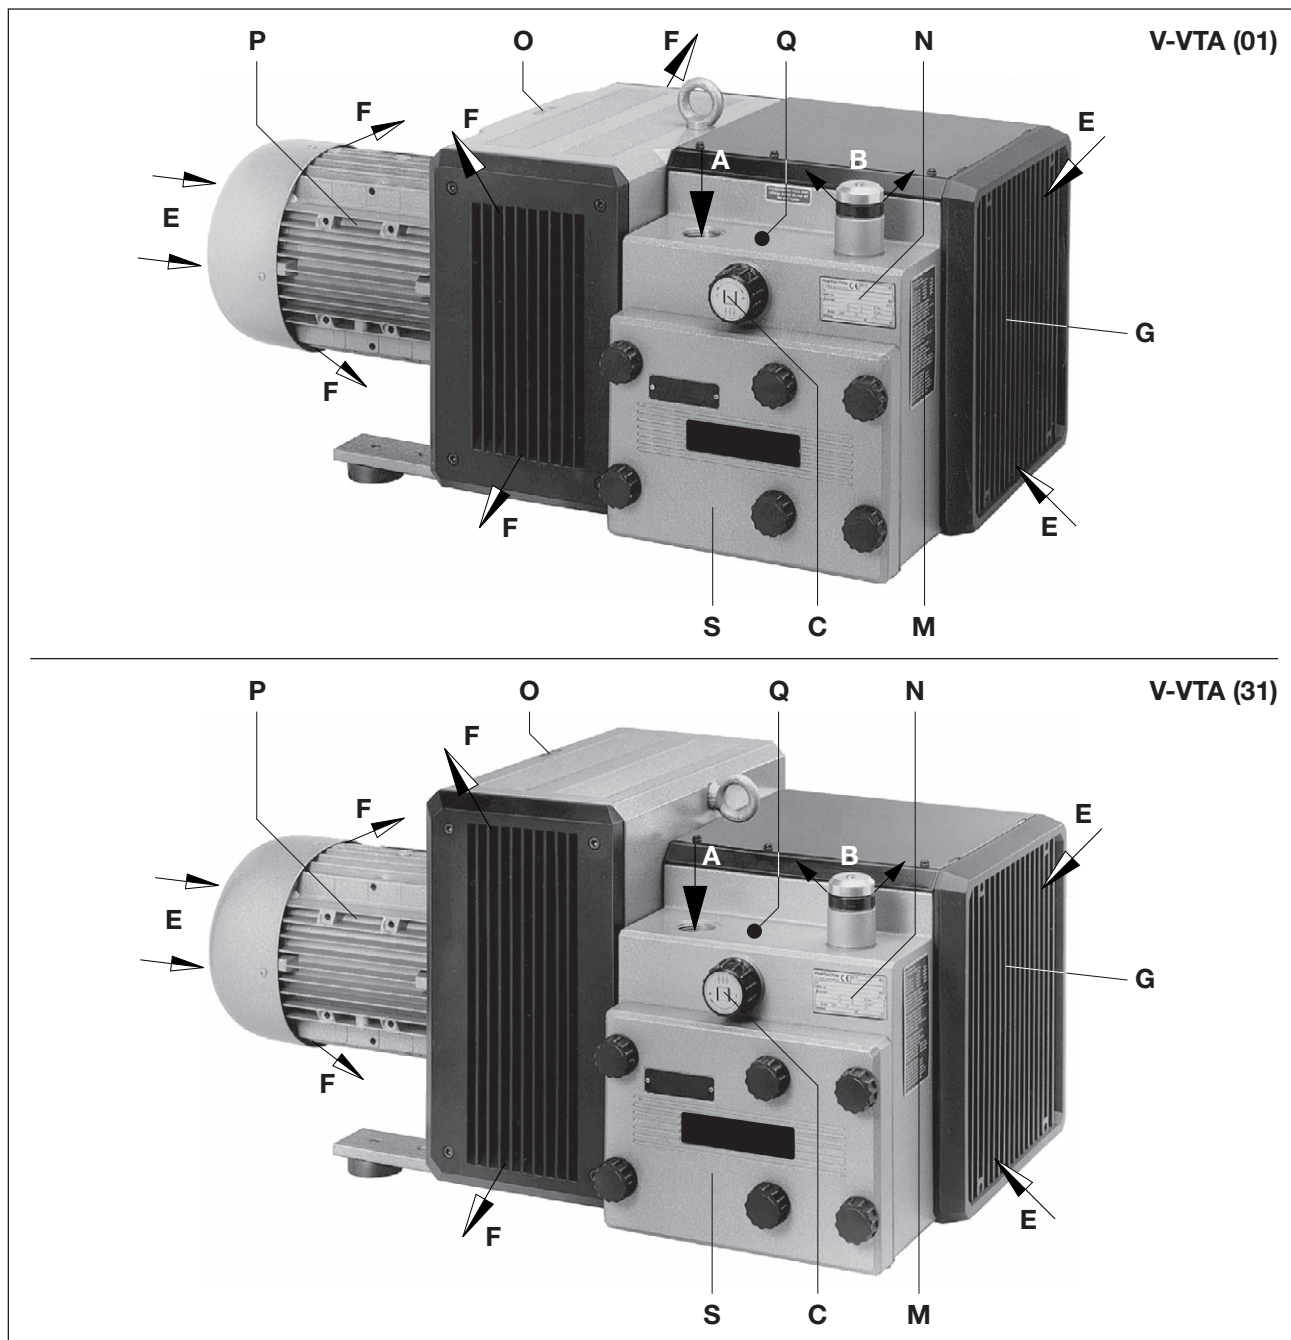

Fig. 2 Vacuum pump V-VTA
A vacuum regulating valve (Fig. 2/C) is used to set the vacuum to the required values with an upper limit.
The filter housing (Fig. 2/S) should be easily accessible. The cooling air inlets (Fig. 2/E) and the cooling air outlets (Fig. 2/F) must be at least 30 cm away from adjacent walls. Cooling air coming out must not be sucked in again.. or maintenance work there must be a minimum of 40 cm in front of the filter housing (Fig.. 2/S) and the inlet grating (Fig.. 2/G).
- a) Vacuum connection at (Fig. 2/A)
The vacuum can be set by turning the control knob (Fig. 2/C) as shown on the symbol fitted to the button.
- a) The motor's electrical data is given on the data plate (Fig. 2/N) or on the motor data plate. The motors comply with DIN EN 60034 and are in protection class IP 55 and insulation class F. The appropriate connection diagram is located in the motor's terminal box (not for the plug connection version). Compare the motor data with the data of the existing mains network (current type, voltage, network frequency, permitted current value).
When the machine is at operating temperature the surface temperatures on the components (Fig. 2/ Q) may go above 70°C. You must avoid touching the hot surfaces (marked with warning plates).
The desiccant bags in the filter housing (Fig. 2/S) must be removed before initial start-up.
- ▷ The drive shaft direction of rotation is shown by the rotation direction arrow (Fig. 2/O) on the motor flange.